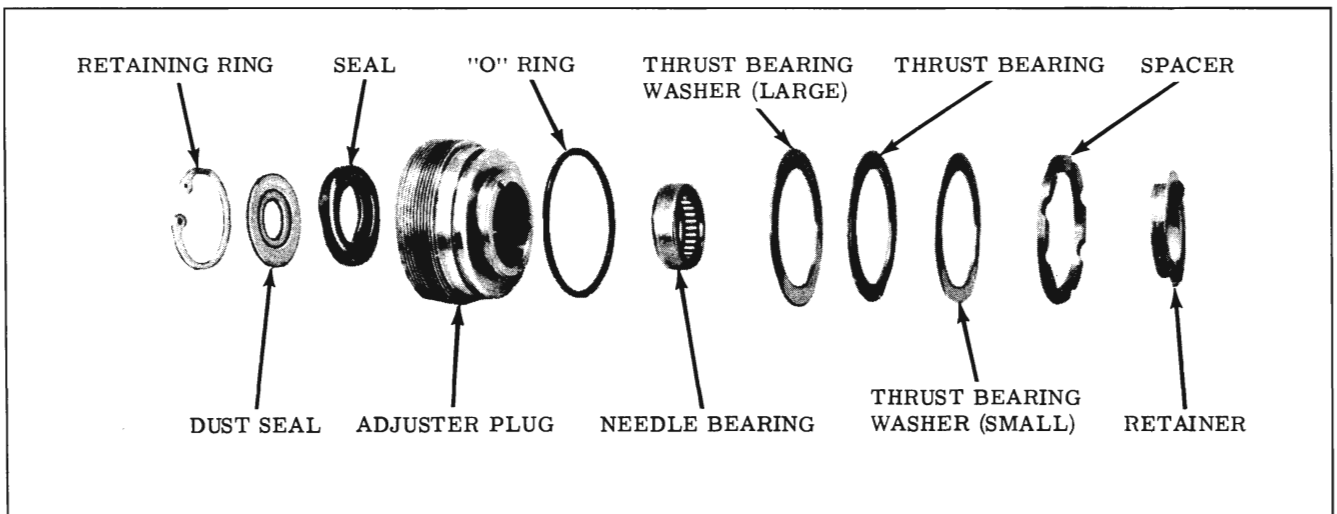

Fig. 4-256 Adjuster Plug Assembly
1. If the seal ONLY is to be replaced and not the bearing, remove the retaining ring with internal pliers, then remove the dust seal. Pry the seal from the bore of the adjuster plug. (Fig. 4-256)